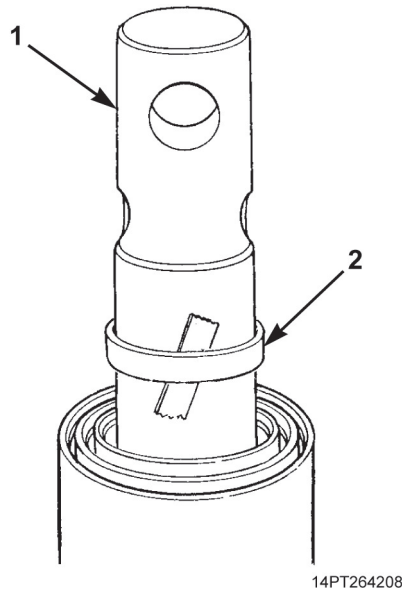

Figure 4. Guide Ring Removal.
5. Using overhead lifting device with nylon sling, raise plunger (Figure 4, Item 1) a few inches and apply tape to a cleaned section of plunger.
6. Lower and lift plunger (Figure 4, Item 1) to expose bottom guide ring (Figure 4, Item 2). Remove tape.
7. Lower plunger (Figure 4, Item 1) and remove nylon sling. Remove bottom guide ring (Figure 4, Item 2) from plunger. Discard bottom guide ring.